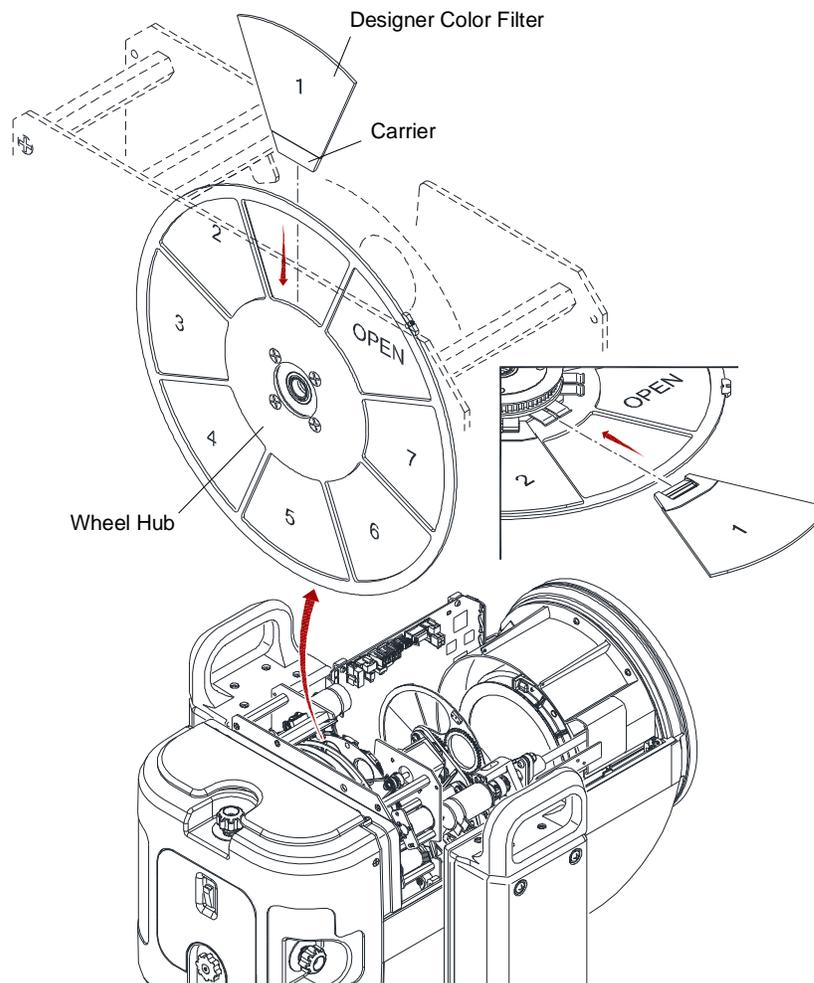

Figure 4-12: Removing a Designer Color Filter
Step 3. Rotate wheel until desired designer color filter is accessible (**Figure 4-12**).